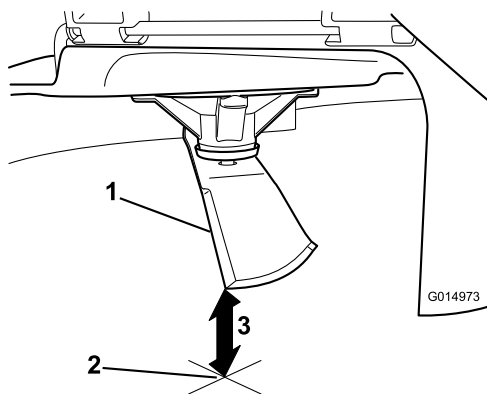

Figure 46
5. Measure from the tip of the blade to the flat surface (Figure 46).